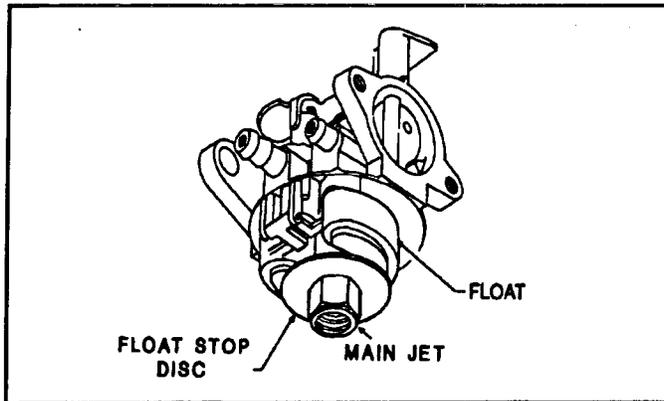

Figure 18
2. Use a 9/16" wrench to remove the main jet and float stop disc. See Figure 18.